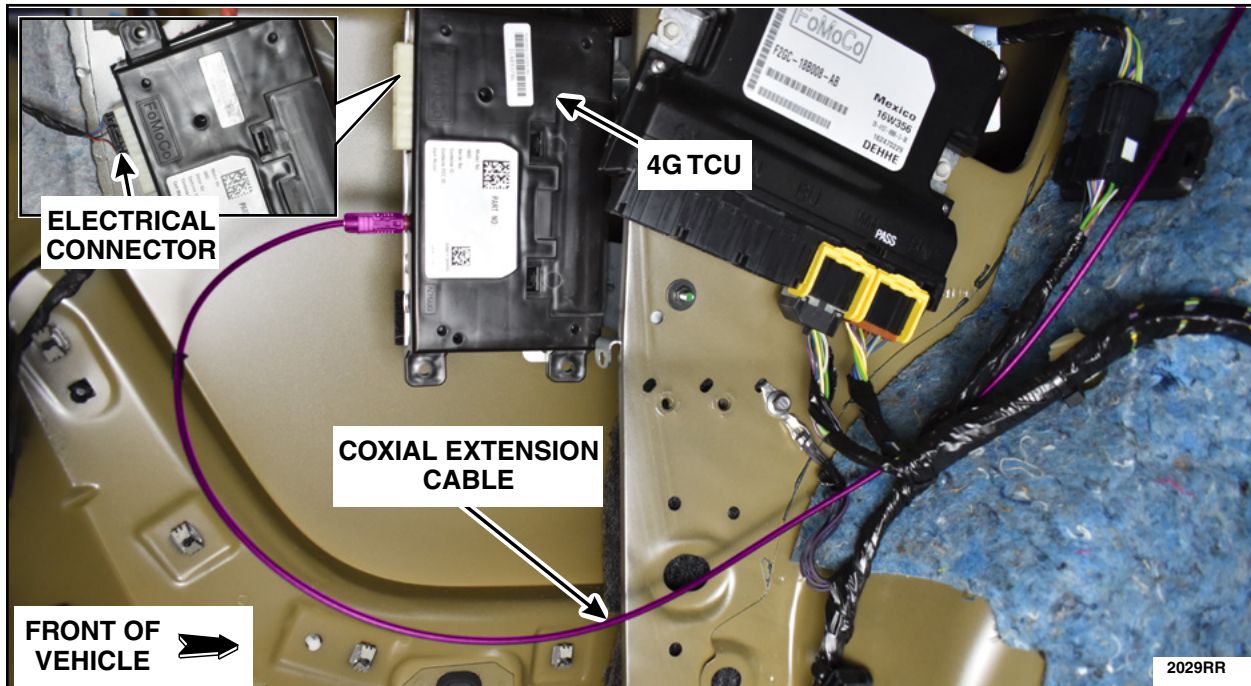

FIGURE 7
8. Connect the 4G electrical connector and the coaxial extension cable. Route the coaxial extension cable behind the wiring harness and upwards towards the rear windshield. See Figure 7.